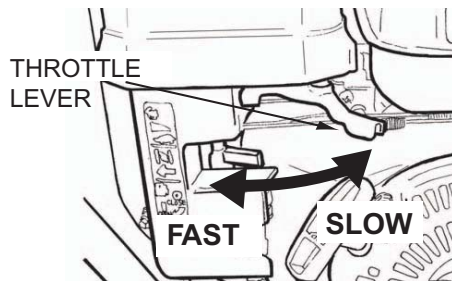

Figure 9. Throttle Lever
12. Place the throttle lever (Figure 9) halfway between fast and slow.
1. Place the throttle lever (Figure 9) in slow position, and listen for the engine speed to decrease.